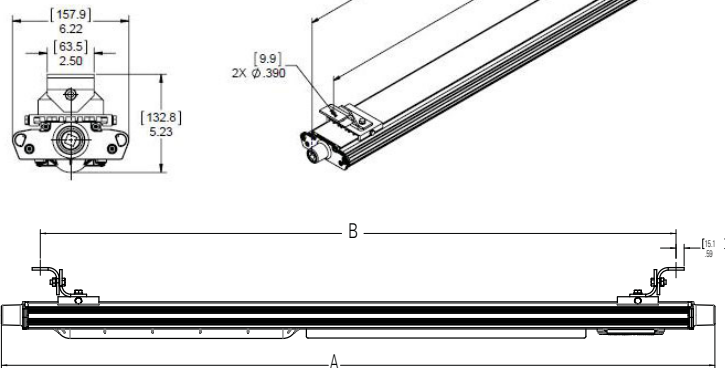

Figure 5. DP1050MTK Swivel Mount Installation
2. Mark and drill holes for fastening swivel brackets. Use two (2) 1/4" bolts (not supplied) at center to center measurements. For swivel brackets, holes may be spaced as required. It is recommended to keep them at least 12" (305mm) apart (see Figure 5).
3. Fixture is now ready for mounting. It is strongly suggested to use two (2) qualified tradespeople to proceed with the final mounting of the fixture. This is recommended to avoid any personal injury or damage to the fixture.